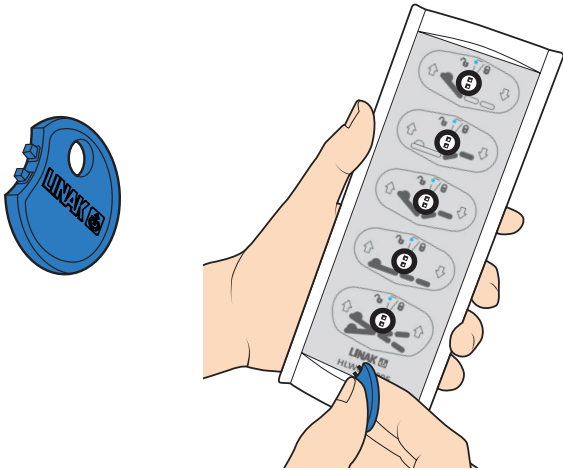

Figure 45
1. Insert the plastic locking key into the keyhole next to the function to be locked or unlocked. See Figure 45.